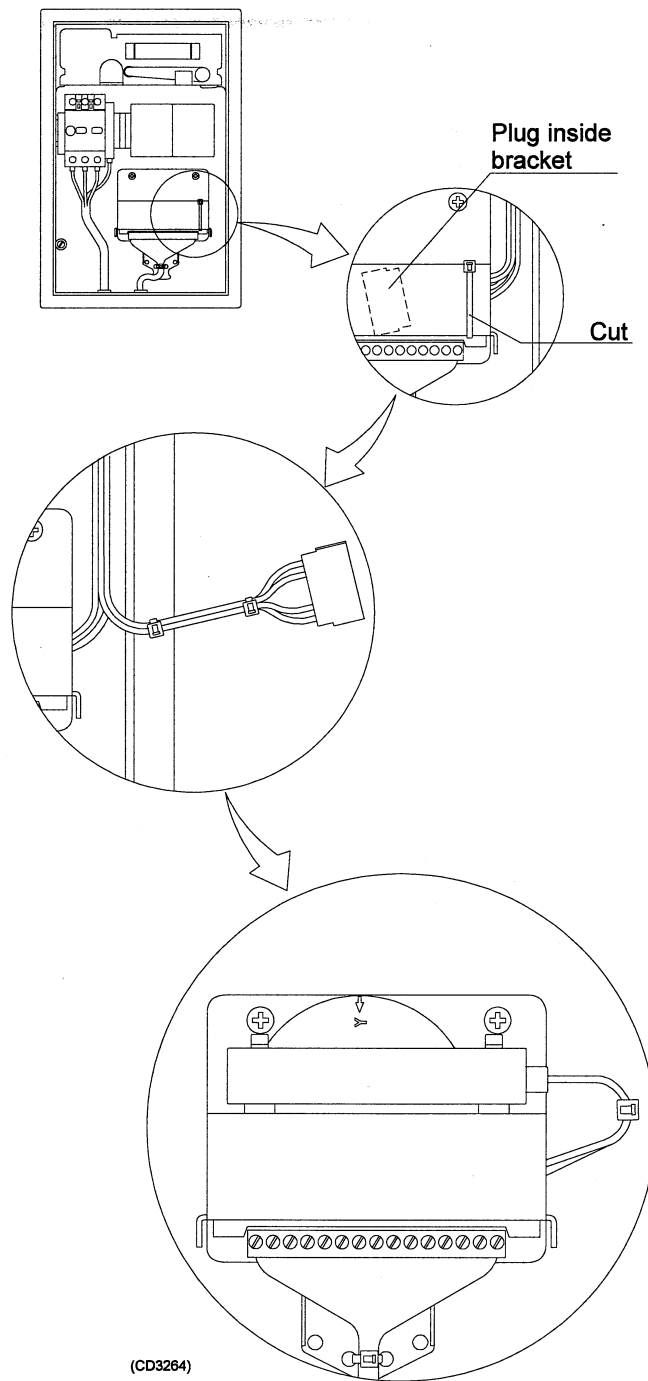

Figure 1 Mounting the stabilization sensor
Figure 1 shows how the stabilization sensor should be mounted into the Motor Control Unit. Use the following installation procedure:
- Locate the connector plug with cable connections which is stored "inside" the mounting bracket (refer to figure 1). Release the plug by cutting the cable strip as shown in the figure.